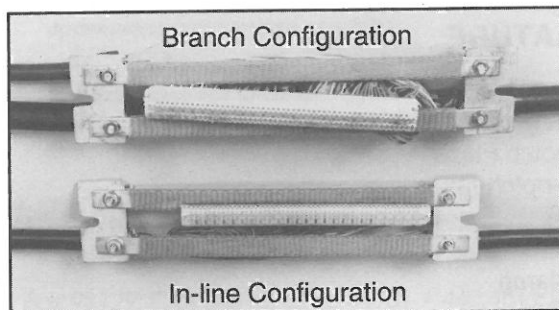

FIGURE 2 - BONDING BRIDGE INSTALLED
3.04 Install bonding bridge and bonding bars (provided) on top of bonding bars, as shown in Figure 2, using the nuts provided with the bonding hardware. Tighten to 40 inch pounds (4.52 Nm).